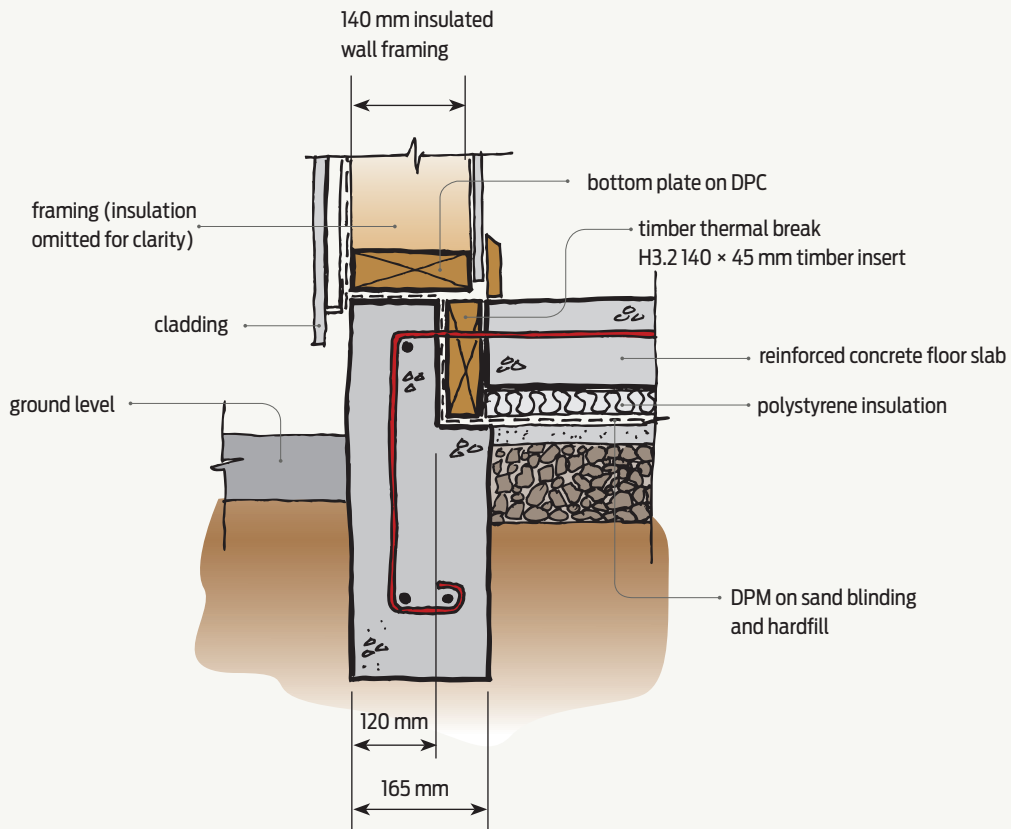

Figure 1 Floor slab insulation – single storey.
- a thermal break between the slab and the perimeter footing (see Figure 1)